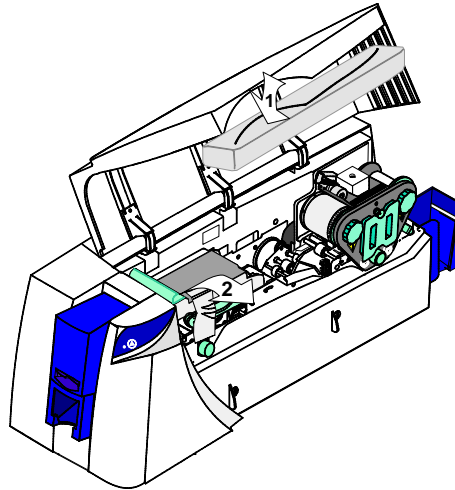

Figure 7-3: Remove internal packaging
- b Slide the packaging material off the edge of the cover (step1 in Figure 7-3).
- c Lift an edge of the packing tape and pull it off the swing arm and chassis (step 2 in Figure 7-3). Discard the tape.